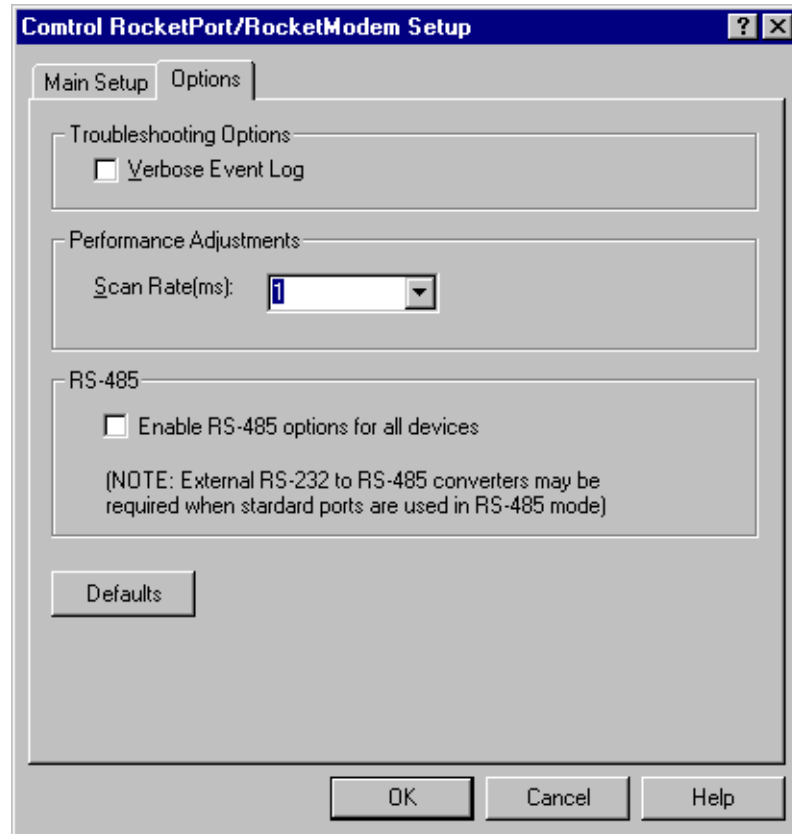

Figure 11. Set the scan rate to 1ms.
15. In the **Options** tab (see Figure 11), set the **Scan Rate(ms)** to 1ms.